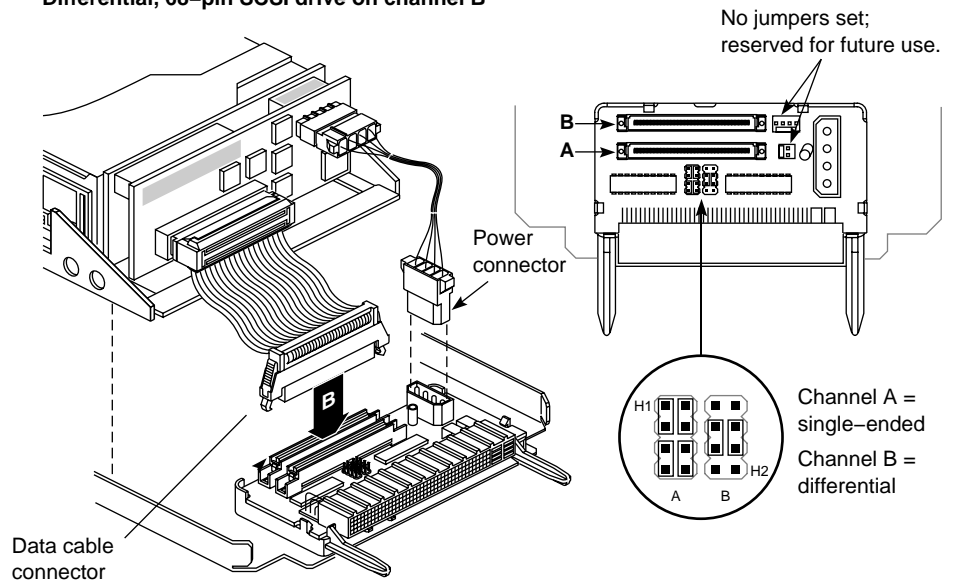

Figure 4-1 Configuring a Drive Sled Adapter Board (Different Channels)
- Be sure the sled-to-drive connector cable is plugged into the correct SCSI channel: single-ended(A) or differential (B).
- Set both jumper blocks H1 and H2 on the sled board to reflect the SCSI channel operation, regardless of which channel is plugged into the drive (see Figure 4-1).
- If the SCSI backplane bus is only single-ended or only differential, set all the jumpers in H1 and H2 for that mode of operation (see Figure 4-1).
The factory shipped your Challenge deskside server with Channel A configured as single-ended and B as differential. If the system has been modified, or if you are uncertain as to the configuration of SCSI Channels A and B, you will have to remove an existing drive. Pull the locking lever on the drive sled to the left and pull the drive and sled assembly gently out of the rack. Compare the settings on the adapter board to those in Figure 4-1 or Figure 4-1. Match the configuration of the new device's adapter board with the intended mode of operation (single-ended or differential).